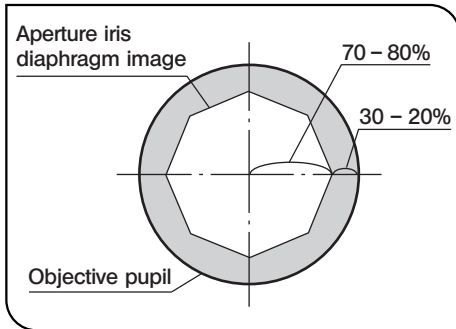

Fig. 24
2 Using the Aperture Iris Diaphragm (Fig. 24)
- To confirm the aperture iris diaphragm, remove the eyepiece when necessary, and then look into the eyepiece sleeve; you will see the field of view as shown in Fig. 24. Now adjust the aperture iris diaphragm lever as required.